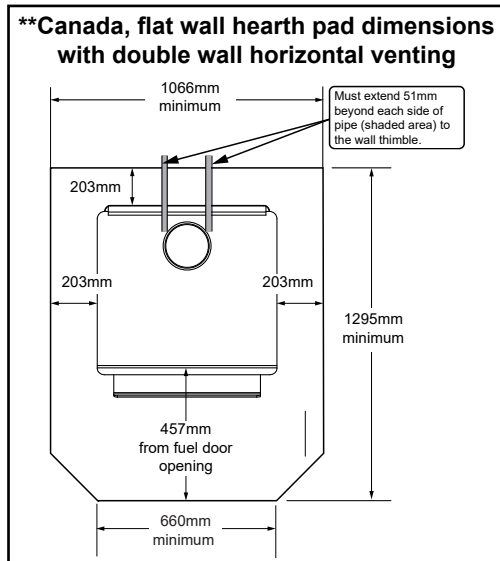

Figure 13.2 - \*\*These dimensions will vary depending installation.
**In Canada,** similar floor protection must be provided 18 inches (457mm) in front and 8 inches (203mm) from the sides and rear of the appliance unless the hearth pad is placed against the wall (**for 43M-ACC-C see Figure 13.2 on page 13 or for 43ST-ACC-C see 14.2 on page 14**). Then the clearance may be reduced using double wall pipe and the Clearance to Combustibles table listed on **page 15**.
**\*Exception:** Non-combustible floor protector must extend beneath the flue pipe when installed with horizontal venting and extend 2 inches (51mm) beyond each side (**for 43M-ACC-C see Figure 13.2 on page 13 or for 43ST-ACC-C see 14.2 on page 14**).